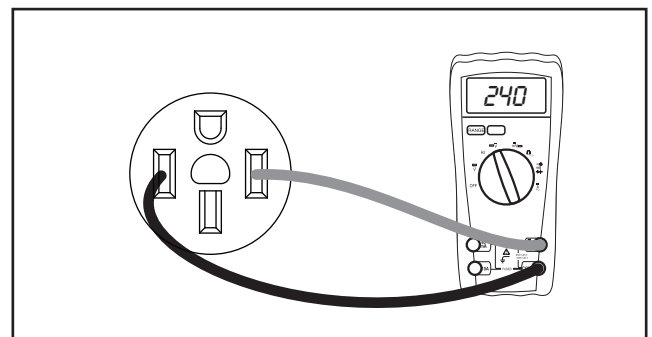

Figure 9. VOM Test Leads Connected to a 240 VAC receptacle
5. Connect VOM across a 240VAC socket as shown in Figure 9.